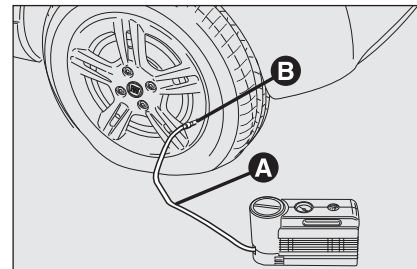

fig. 9
- Ensure that the handbrake is on. Unscrew the tyre valve cap, remove the flexible filler tube **A**-fig. 9 and fasten the nozzle **B** onto the tyre valve;